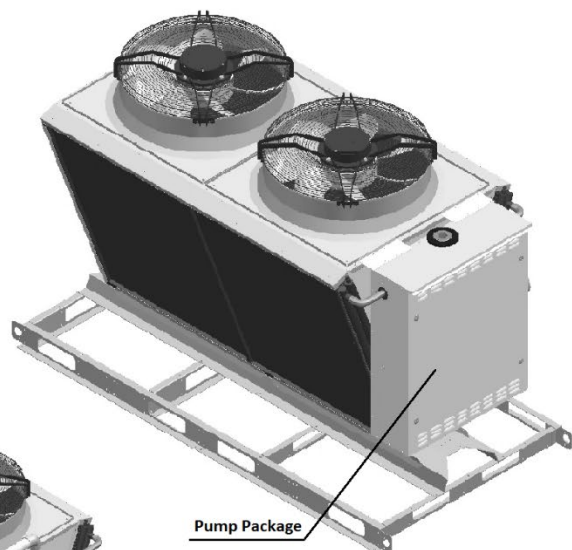
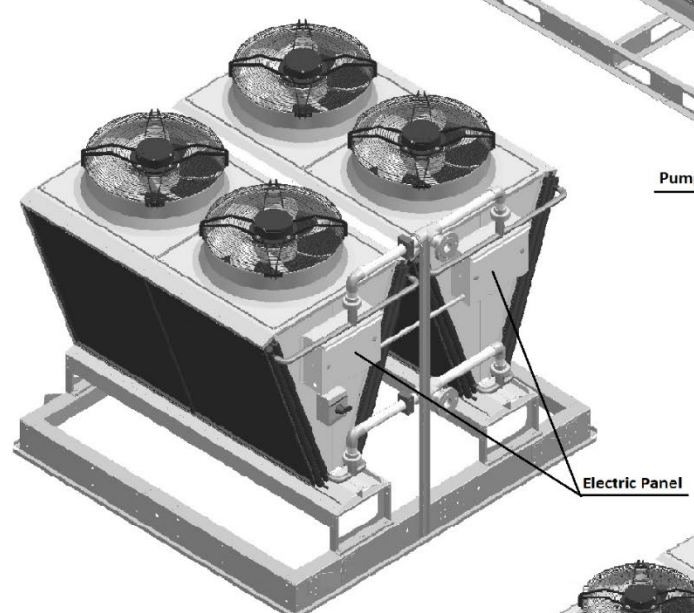
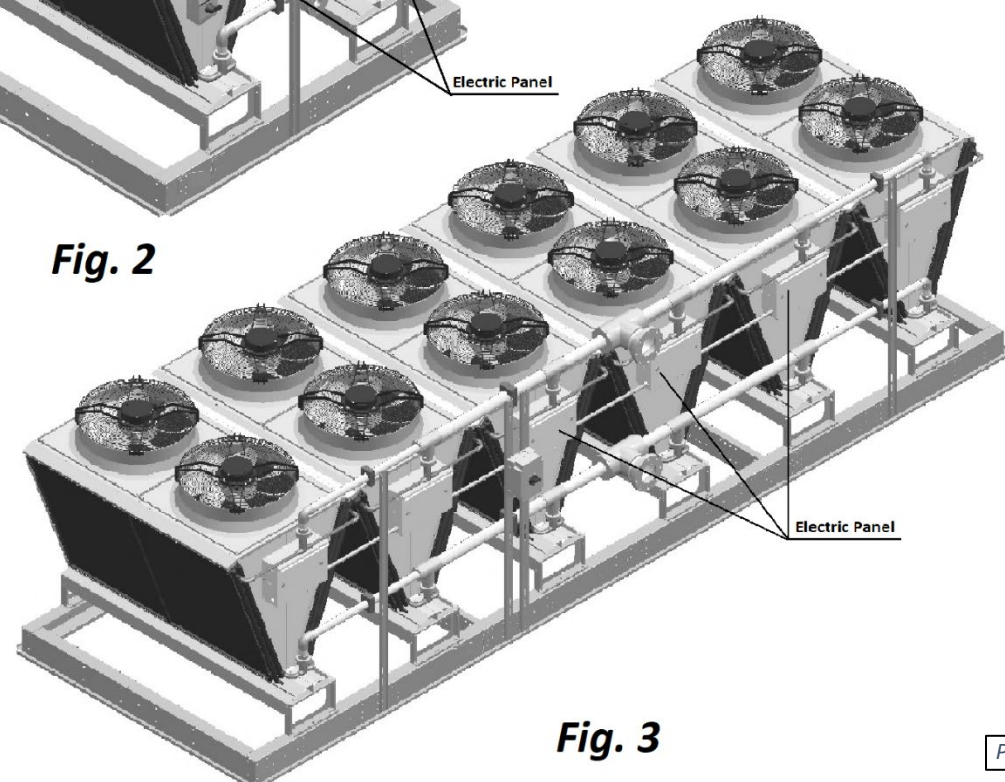

Fig. 1
Fig. 2
Fig. 3
For two-compressor dehumidifier, compressor compartment may have side (Fig.1; same as dehumidifier, shown on Pic. C.1) or end (Fig.2) location. End location is mostly used in higher capacity dehumidifiers.
Three -compressor dehumidifiers (Fig.3) normally have end location of the compressor compartment.
- Fluid cooler NG-V-12 (Pic.C.4, Fig.1) is composed of one such block; NG-V-22 (Fig.2) composed of two such blocks etc. largest single fluid cooler, NG-V-62 (Fig.3) composed of six of them.
As an option, each block of fluid cooler could be equipped with the pump package (as shown on Fig.1 for NG-V-12).
The general layout of AC options (air-and water-cooled) is shown on Pic.D.5 below with the outdoor fluid cooler *NG-V-12*, equipped with additional pump package (*Fig.1*) and *NG-V-32* (*Fig.2*) as an example. While layout and main components are similar for all applicable AC options, there are some deviations (number of fans, composition, etc.). Refer to **AC Options Basic View** (**Basic Information** chapter) for additional information.
- Cooling (AC) **coils** (31) (where heat from glycol mixture is rejected to the ambient air) is mounted onto metal frame, upstream (before) the **fans** (32), that pulls the air through the coils to absorb the heat.
- Normally, fluid cooler would have multiple coils and fans. Cooler NG-V-12 (Fig.1), comprised of two coils, mounted on the angle to each other, and two fans, presents a single block. Depending on the capacity, cooler could be comprised of up to six such single blocks, stacked side by side on the same frame and manifolded together – NG-V-32 is comprised of three such blocks.
- Cooler **piping connections** (33) are identified respectively (IN – OUT);
- In some cases, fluid cooler piping connection(s) may be located within **pump package** box (37), if fluid cooler is provided with one.
- Electric power is normally to be brought to **disconnect** (35) (if cooler is equipped with such), which feeds it to the **electrical box** (36), that contains cooler power and control apparatuses.